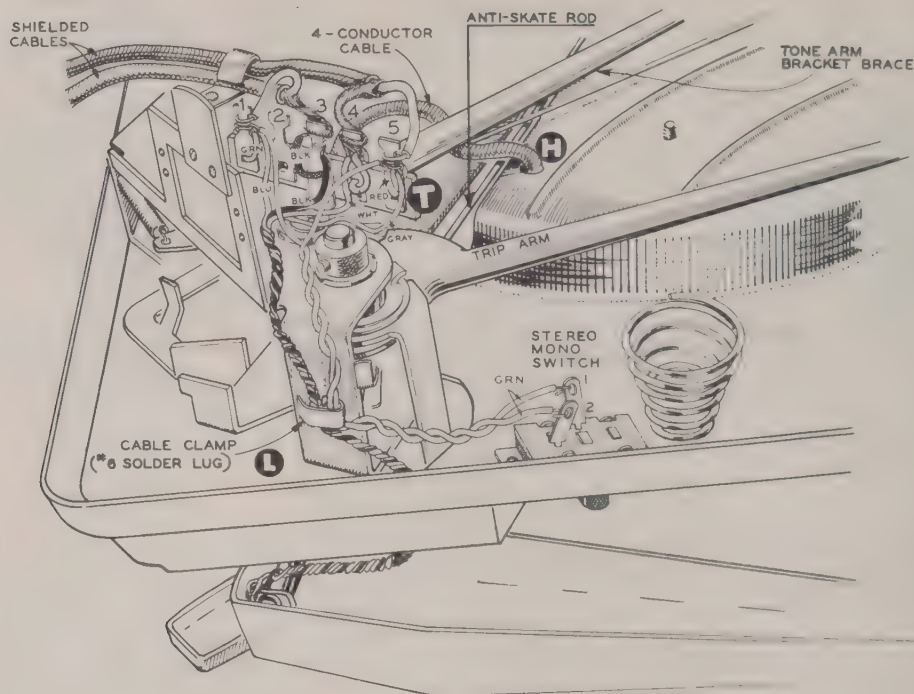

Figure 8
Refer to Figure 8 for the following steps.
- () Connect the inner conductor of the cable just prepared to lug 1 (S-4) of terminal strip T, as shown in Figure 8.
- () Place both audio cables in the support clamp and secure both by squeezing the clamp with a pair of pliers. See Figure 8.